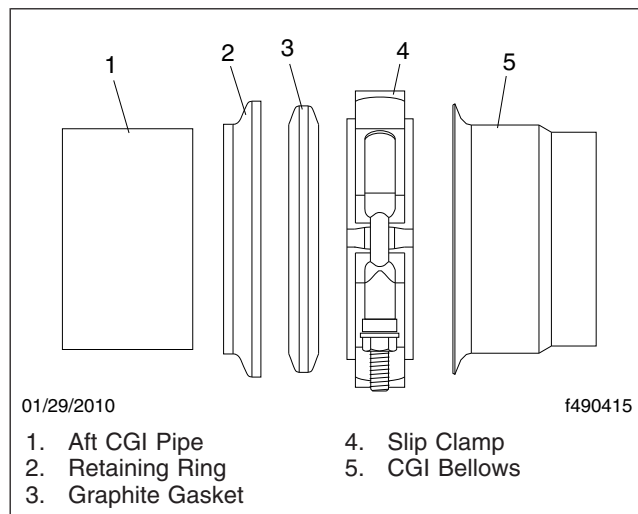

Fig. 8, Aft Facing Slip Clamp Installation
11. Slide the slip clamp, with the retaining ring and graphite gasket ring, on the aft CGI pipe. See Fig. 8 for proper installation.